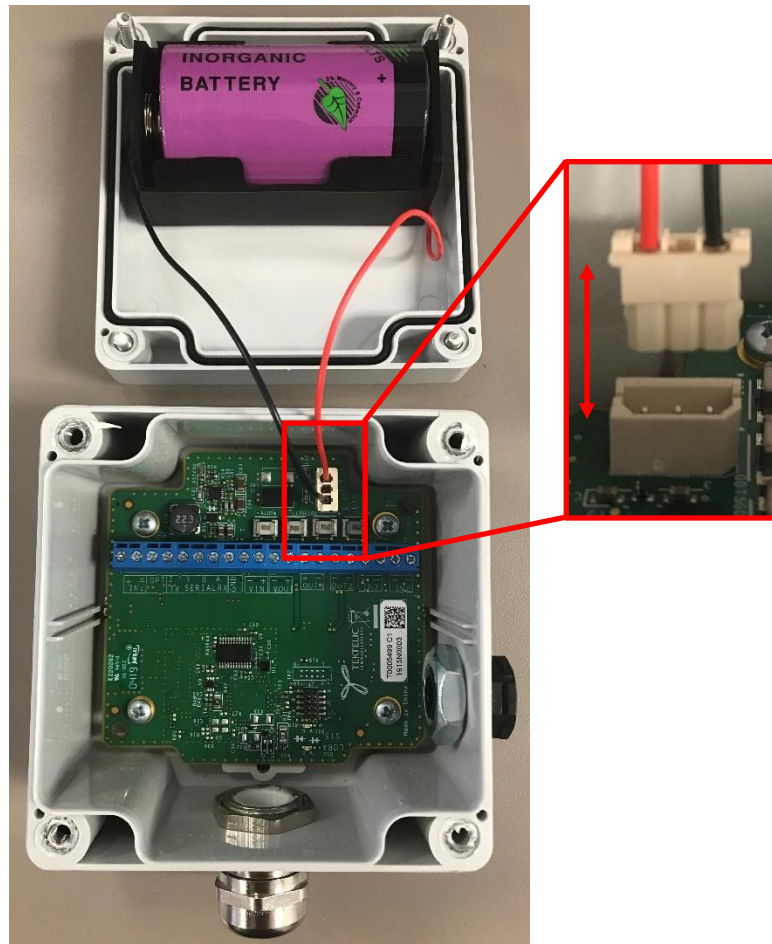

Figure 5-2: Battery Connector Removal
2. Disconnect the battery from the receptacle on the PCBA, as shown in Figure 5-2.